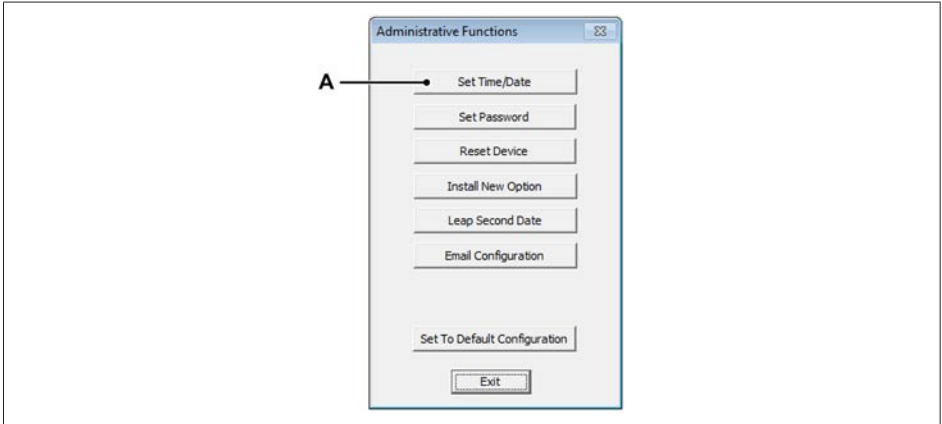

Fig. D.64 Administrative Functions - GMR1000
9. Edit the date by clicking on the **Set Time/Date** button in the **Administrative Functions** dialog (see Fig. D.64).